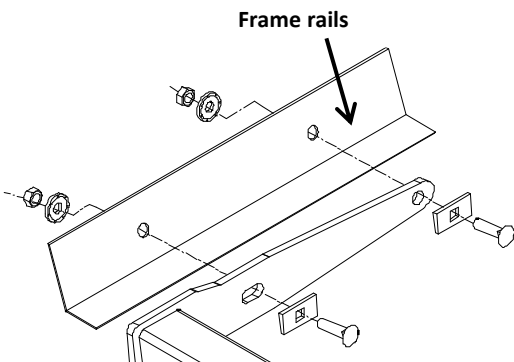

Figure 3
2. Remove bumper – use 13mm socket to remove (2) screws on driver side and (4) screws on passenger side. Return bumper and screws to customer.
3. Raise the hitch into position and insert the brackets into frame rails opening, as shown in Figure 3.